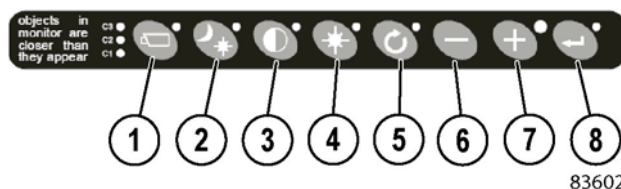

FIGURE 33-10. MONITOR BUTTONS
1. Place the camera monitor into Service Menu Mode by pressing buttons (1, 6 and 7, Figure 33-10) at the same time. The monitor will now show a screen similar to Figure 33-11.
2. Navigate the highlighted bar to the row named "System settings" by using minus button, (6, Figure 33-10). If on the last row, pressing the minus again will place the highlight to the top row.
1. Place the camera monitor into Service Menu Mode by pressing buttons (1, 6 and 7, Figure 33-10) at the same time. The monitor will now show a screen similar to Figure 33-15.
1. Place the camera monitor into Service Menu Mode by pressing buttons (1, 6 and 7, Figure 33-10) at the same time. The monitor will now appear as shown in Figure 33-19.
1. Place the camera monitor into Service Menu Mode by pressing buttons (1, 6 and 7, Figure 33-10) at the same time.
- 1. Place the camera monitor into Service Menu Mode by pressing buttons (1, 6 and 7, Figure 33-10) at the same time.